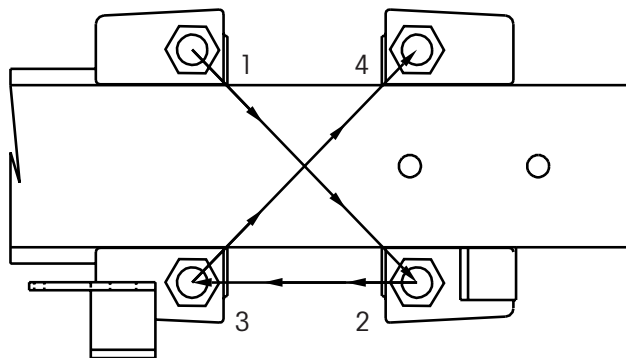

Figure 6. U-bolt nut tightening sequence
5. Tighten the nuts on the U-bolts by alternately tightening opposing corners of the clamp assembly. Use a calibrated torque wrench set from 475-525 ft-lbs (Figure 6).